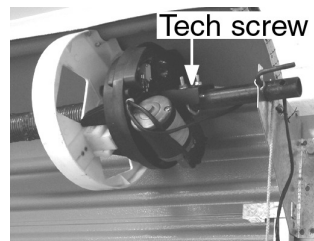

Fig. 7
Minimum side room of 85mm from the face of the door drum wheel to the inside edge of the door support bracket is required to install the opener (see Fig. 1) and maximum side room is 125mm before having to move and re-fit the support bracket or install the drive unit fully inside the drum (Fig. 7)
- 2.7.1 In cases where the unit is installed where it can not be fastened to the door support bracket as in Fig.7, the addition of a self drilling tech screw through the base of the clamp into the torsion bar, may be necessary after clamping the U bolt to the torsion bar. This will prevent the motor drive unit slipping around the torsion bar which will cause the limit positions to drift.